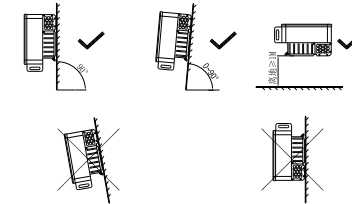

Figure 5.1
- A.Ensure that the installation wall is solid enough to bear the inverter.(Inverter weight please refer to installation manual Figure 5.1)